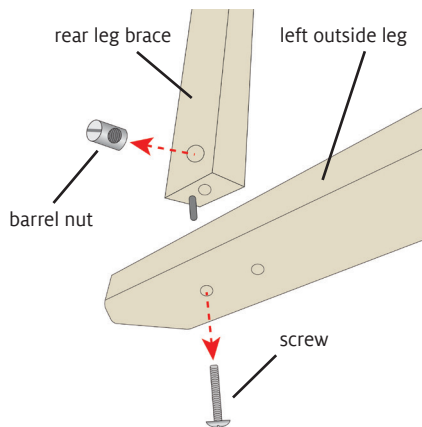

FIGURE 1: REMOVE REAR LEG BRACE
1. Unscrew the machine screws in the outside legs from the barrel nuts in the rear leg brace (Figure 1). The rear leg brace is also held by small pins that go into the legs; spread apart the outside legs to remove it. Save the barrel nuts for step 3.